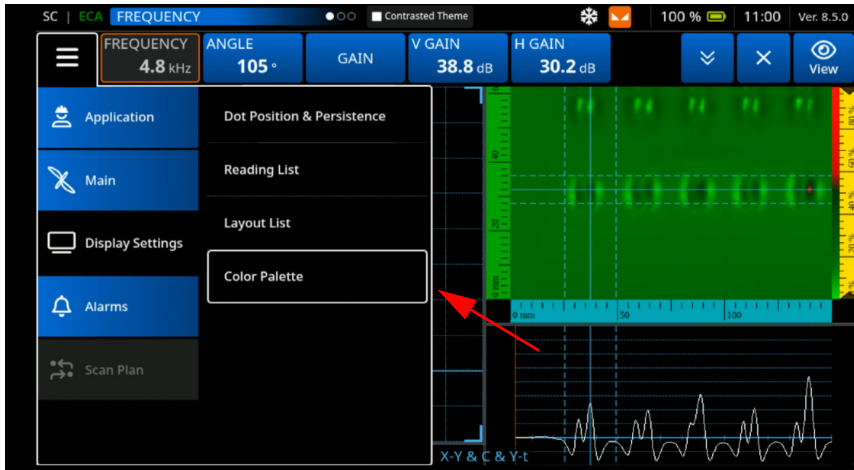

Figure 4-72 Select Color Palette
24. Select **Color Palette** (See Figure 4-72 on page 171).